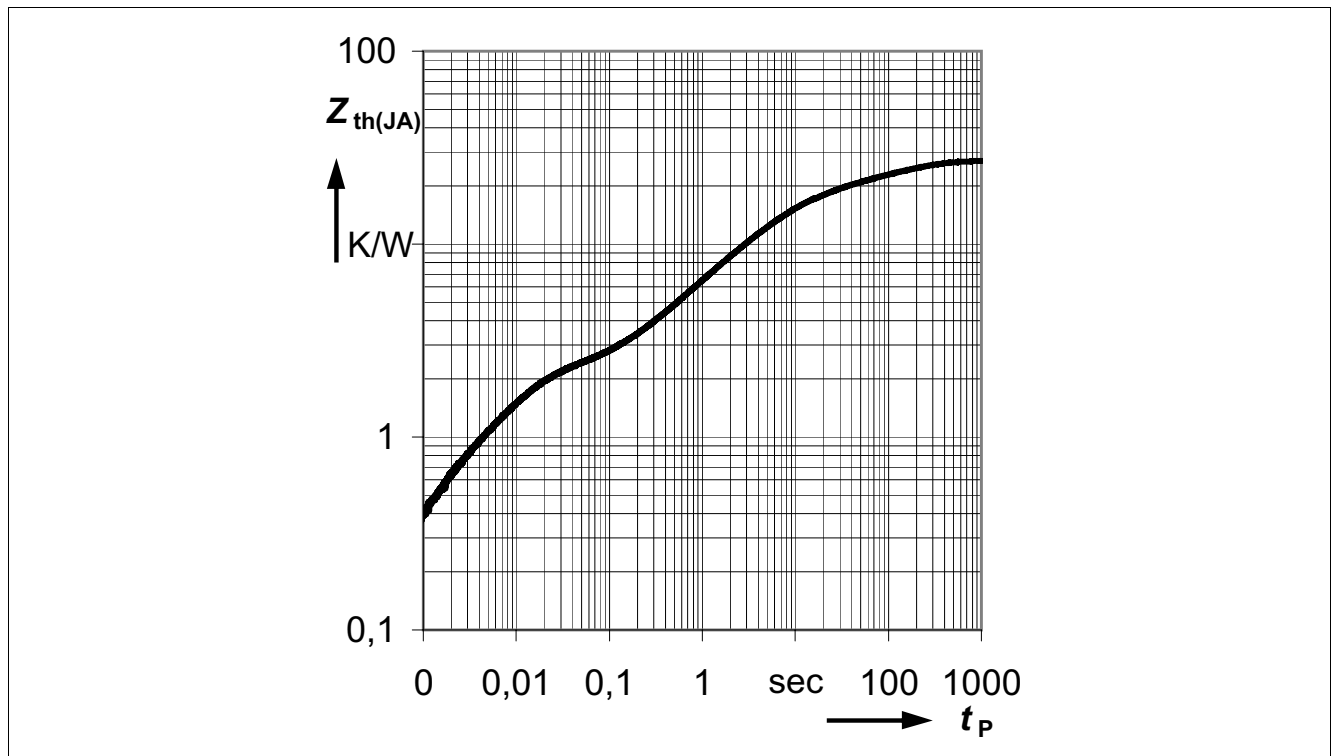

Figure 4 Transient Thermal Impedance $Z_{th(JA)}=f(t_p)$ ⁴⁾
- 4) Specified R_{thja} value and **Figure 4** are according JESD51_7 at natural convection on FR4 2s2p board. The BTS50060-1EGA was measured on a 76.2 x 114.3 x 1.6 mm board with 2 inner copper layers (2 x 70 μ m Cu, 2 x 35 μ m Cu) applying power losses of 1.4W at the channel. According to JESD51-5 a thermal via array under the exposed pad contacted the first inner copper layer. $T_a = 25\text{ °C}$.
Figure 4 shows the typical transient thermal impedance of BTS50060-1EGA.